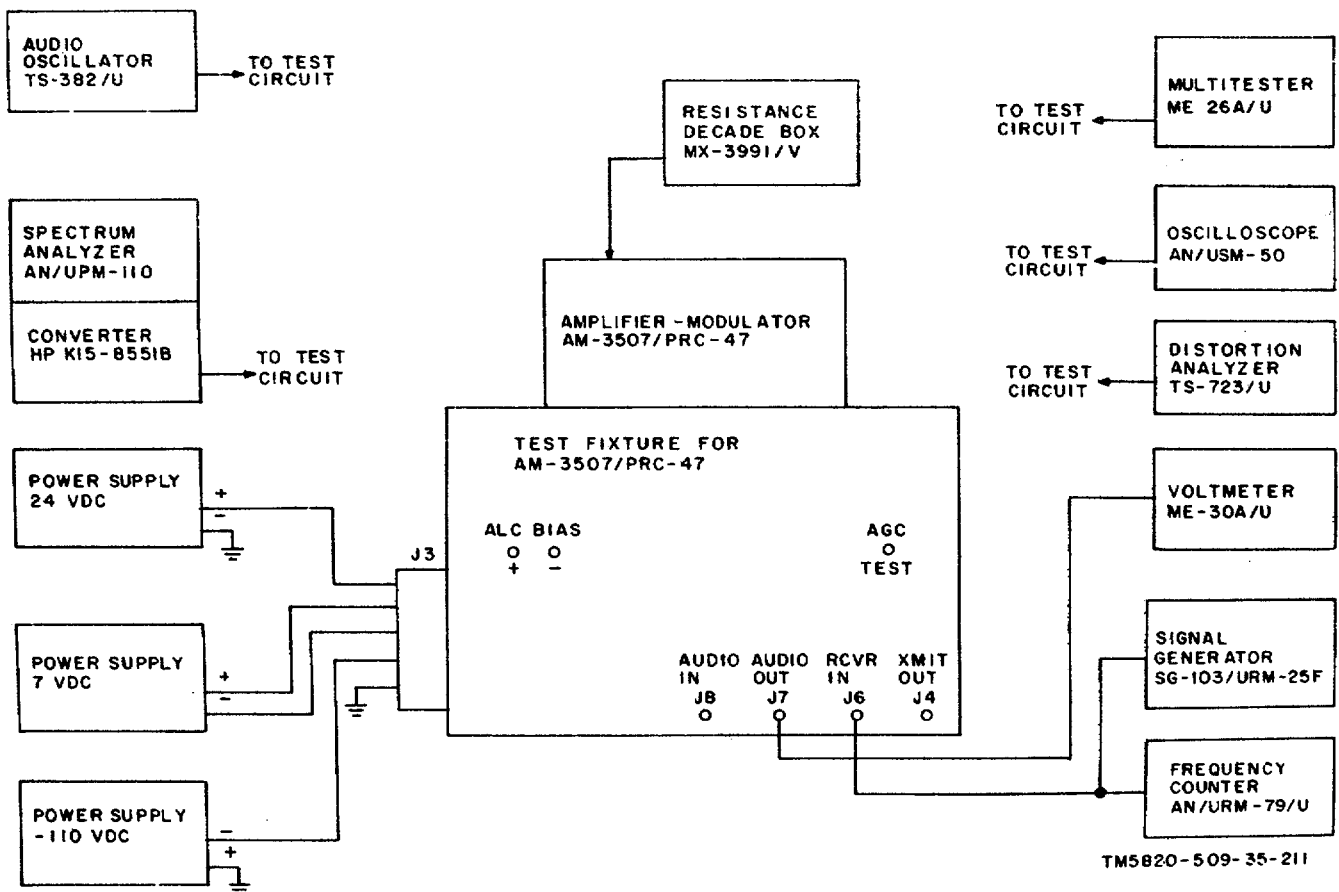

Figure 6-12. Amplifier-Modulator AM 3507/PRC-47 (A8A2), Performance Tests, Initial Test Equipment Connections.
(1) Connect the test instruments to the test fixture as shown in figure 6-12. (The connections for the remaining test equipment are detailed in the appropriate procedural steps below.)